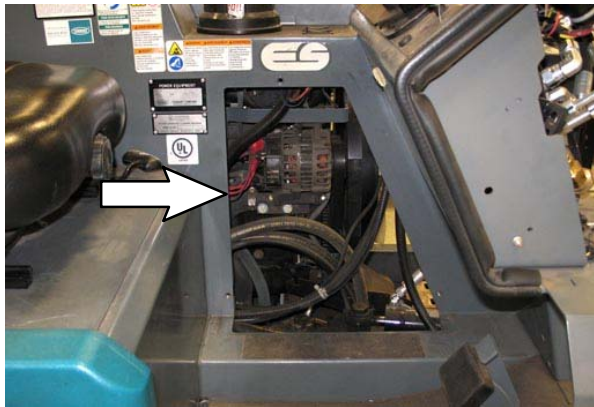

FIG. 1
4. **M20 / M30 / T20:** Remove the engine access panel from the operator compartment. Set the access panel and hardware aside. (Fig. 1)